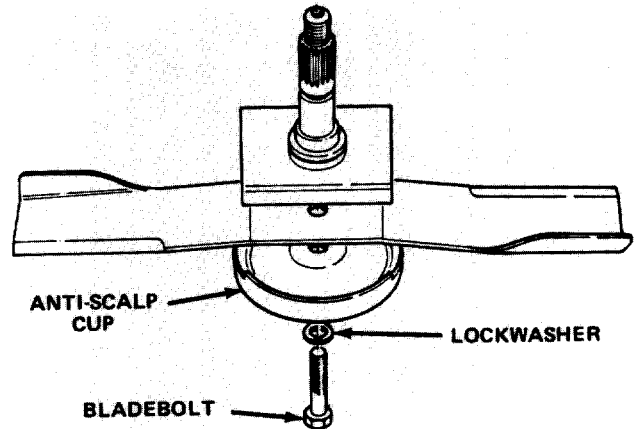

Figure 28
2. Grasp end of blade using a rag or thickly padded glove. Remove bladebolt, lockwasher, anti-scalp cup and blade from spindle shaft (Fig. 28).